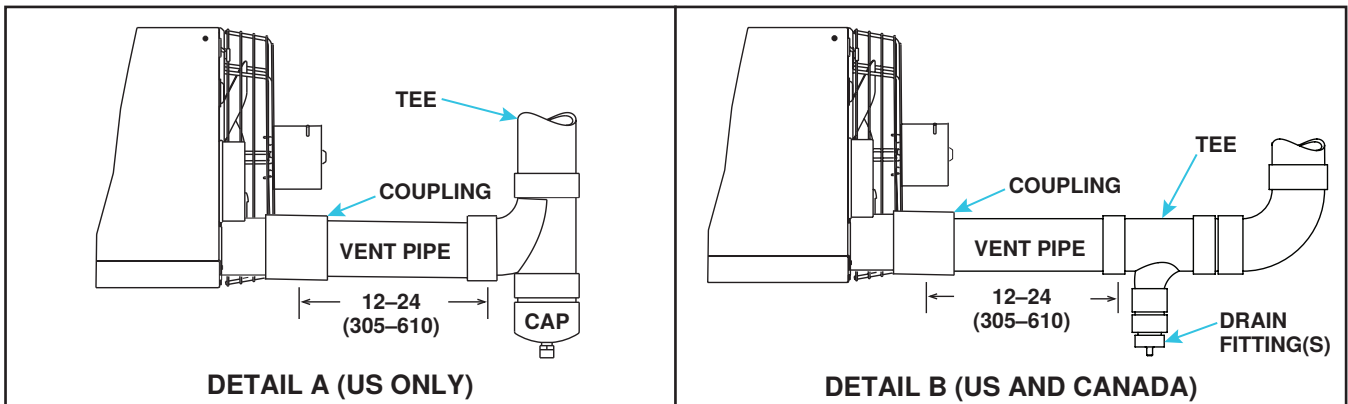

Figure 20. Installing Condensate Drain in Vertical Vent (Unit Sizes 130–310)
2. For vertical vent, install vent condensate drain on unit sizes 130–310 (see Figure 20):
- c. For US installations only (see Figure 20, DETAIL A):
- (1) Connect field-supplied 4 × 4 × 4 PVC tee to vent pipe.
- (2) Connect PVC cap included in option CC2 to tee. Cap is drilled and tapped for 1/2-inch NPT drain connection.
- (3) Connect field-supplied condensate drain to cap.
- d. For US or Canadian installations (see Figure 20, DETAIL B):
- (1) Connect field-supplied PVC tee to vent pipe.
- (2) Connect field-supplied fitting(s) to tee as needed for 1/2-inch or larger condensate drain line.